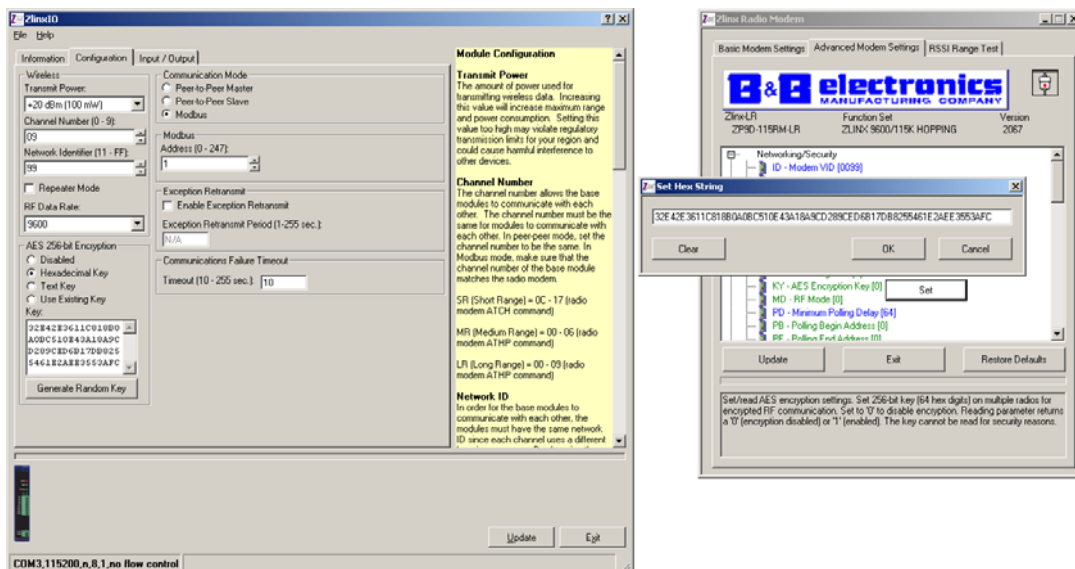

Figure 36 Zlinx Radio Modem Encryption
- a. Figure 36 shows the Zlinx Radio Modem configuration screen.